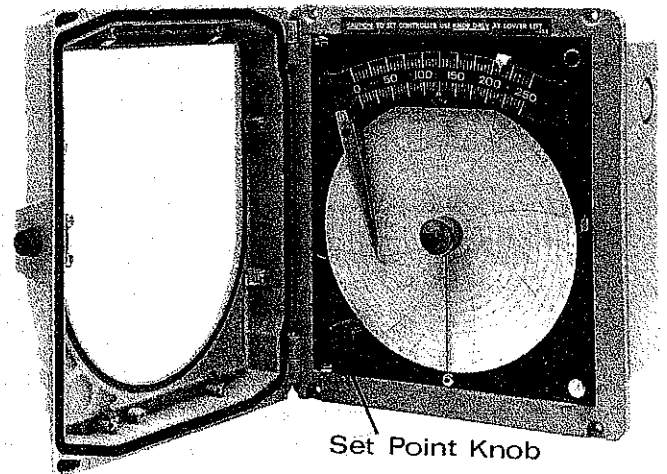

Figure 3
1. The 650 Series enclosure has three (3) knockouts: one on the back and one on each side. Select the knockout desired for wire entry. With the recorder supported on a firm flat surface, place the tip of a screwdriver blade in the knock-out groove and give the screwdriver handle a sharp rap with a hammer. Repeat this around the groove until the hole is clear.
2. Open the recorder door by pressing on the push button latch and swing the door open. Remove the shipping tape from the two scale pointers. Unscrew the two right-hand corner screws of the chart plate. See Figure 3. Swing the chart plate open exposing terminal block, calibration adjustments and working mechanism. Remove the knockout slug.
1. Unscrew the chartplate right-hand corner screws. See Figure 3. Swing the chartplate open exposing the terminal block.
3. Using the set point control knob, turn the setting knob until the orange pointer is aligned with the desired set point (control point). See figure 3.